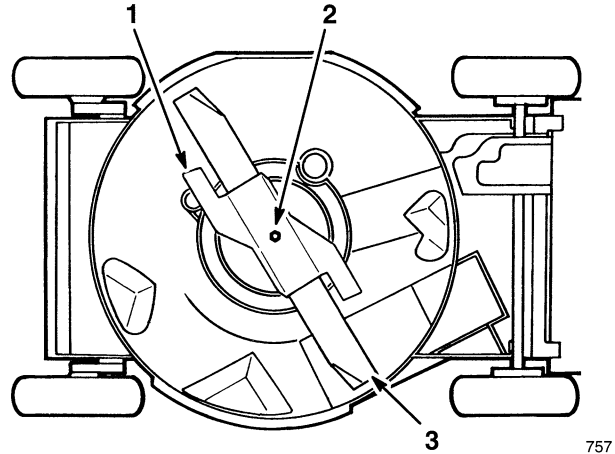

Figure 22
3. Tip mower on its right side (Fig. 22). Avoid rotating blade as starting problems may result.
5. REMOVING BLADE—Grasp end of blade using a rag or thickly padded glove. Remove blade bolt, lockwasher, blade accelerator, and blade (Fig. 22).